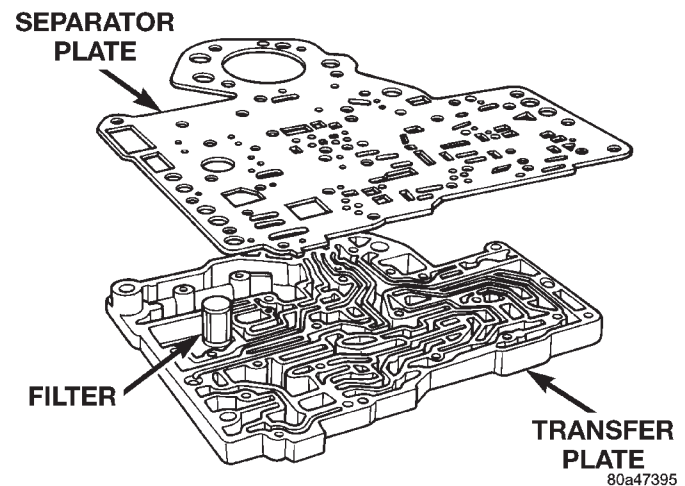

Fig. 57 Transfer And Separator Plates
(23) Insert filter into opening in separator plate (Fig. 57).
(24) Place separator plate in position on transfer plate and install screws to attach separator plate to transfer plate (Fig. 57).